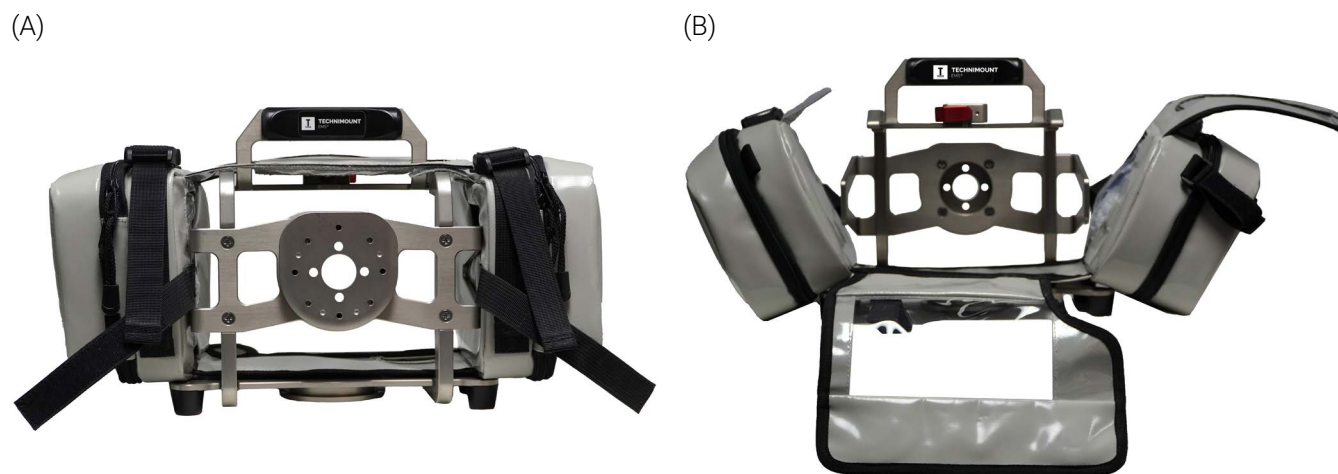

Figure 23: Removing the protective and transport bag from the BP380 – GR
2. Pull apart the hook-and-loop strips at the back of the bag, then the hook-and-loop top panel on top of the bag (Figure 23).